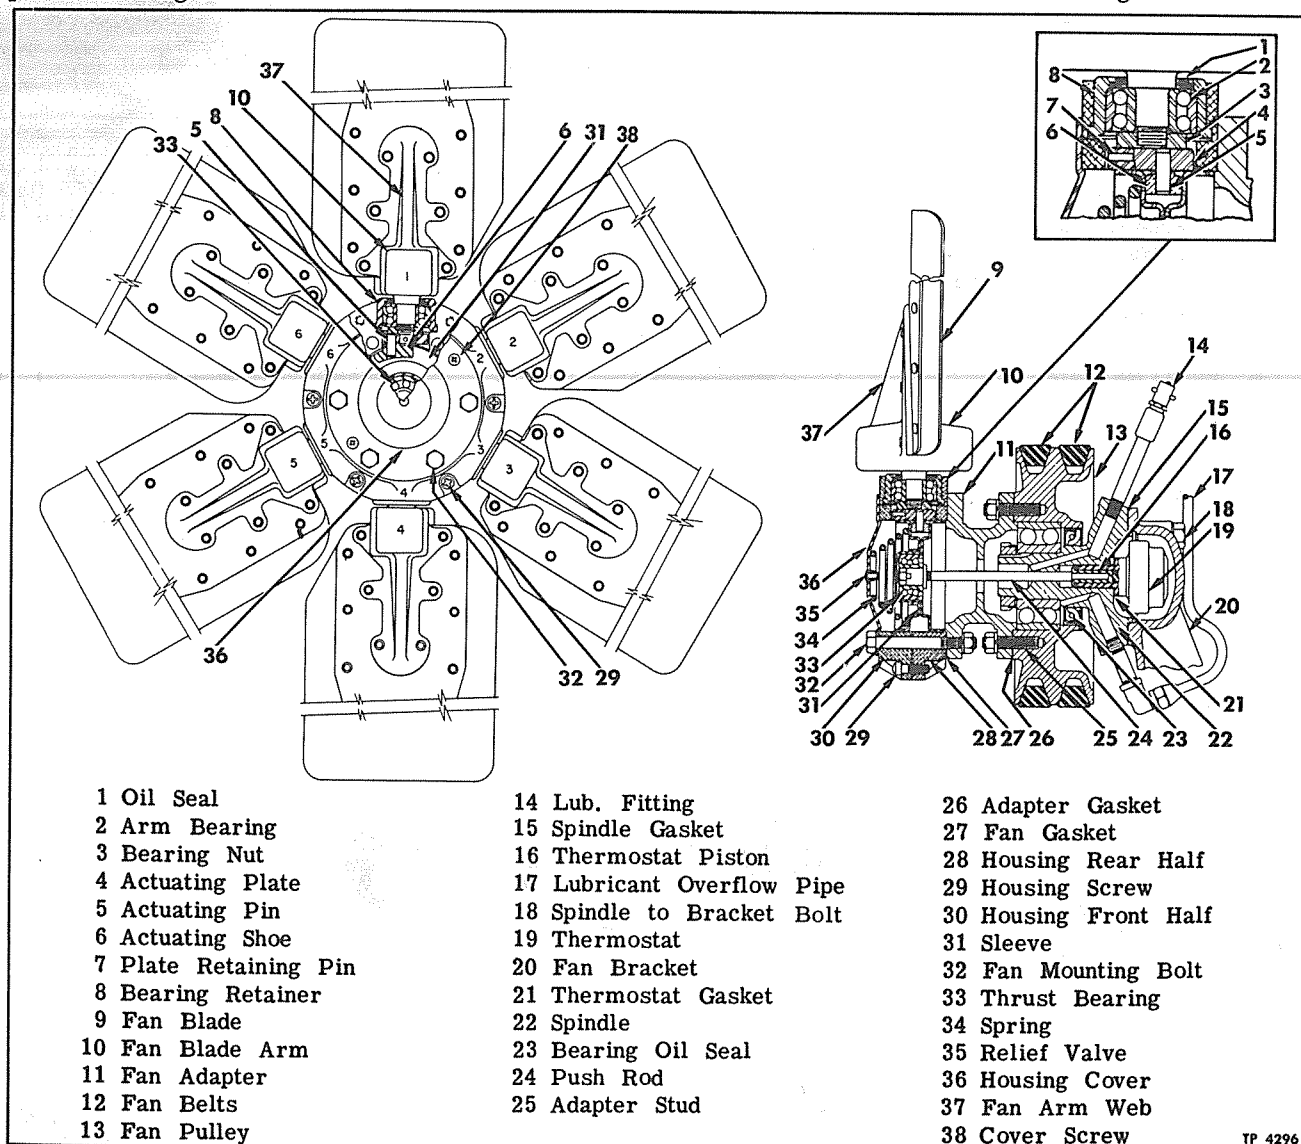
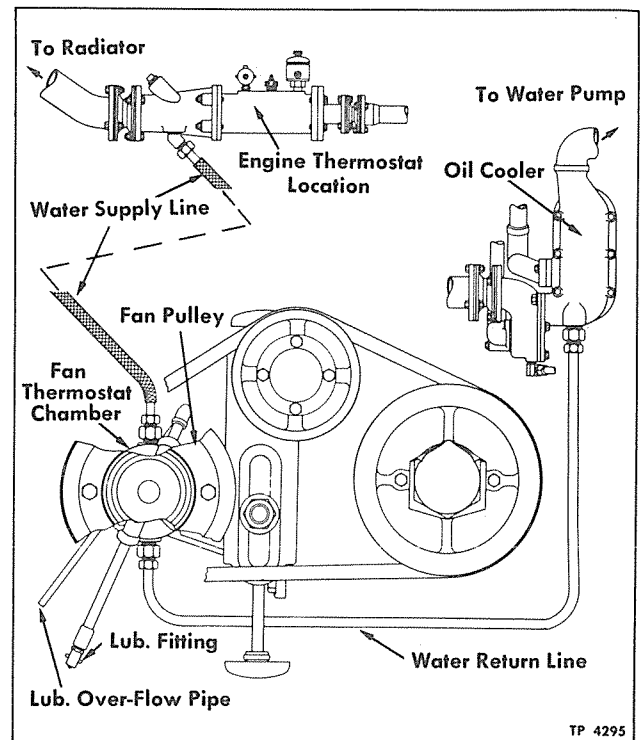

Figure 8—Sectional Views at Fan Hub and Pulley
Figure 9—Water Line Layout
Some vehicles are equipped with thermostatically controlled variable pitch fan assemblies. Radiator shutters are not used on vehicles so equipped. Key numbers in text refer to figure 8.
CONSTRUCTION (Figs. 8 & 9)
When engine is cold, the fan blades should have a slight reverse pitch. Consequently no cold air is drawn through radiator core when cold engine is first started. When engine reaches operating temperature and thermostat in water manifold at engine opens, the heated water from cooling system begins to flow through thermostat chamber at spindle as well as through radiator core. When fan thermostat is heated to a temperature of 168°F. the push rod is forced toward fan blade housing and exerts force against thrust bearing (33) in sleeve (31, fig. 8). This movement rotates fan blade arms which are interconnected with groove around sleeve (31). As engine water temperature rises, fan blade pitch will be increased proportionately until the fan operating thermostat temperature reaches 192°F.
THERMOSTAT REPLACEMENT (Fig. 8)
Fan pulley bearing and moving parts at fan hub are lubricated through fitting installed in fan bracket spindle (fig. 9). A lubricant overflow tube is also installed in spindle and relief valve is incorporated in front cover, to prevent pressure build-up within hub assembly. Refer to Lubrication (Sec. 13 of X-4711) for lubrication periods and lubricant specifications. Fan blades should be slowly oscillated manually while applying lubricant to assure complete filling of cavity inside hub. **CAUTION:** When lubricating fan assembly, if the lubricant overflow appears milky, moisture is indicated and measures should be taken to correct the condition. When the above condition occurs, it will usually be due to water leak at thermostat gasket (21, fig. 8). Removing thermostat and applying gasket cement on both sides of thermostat gasket will eliminate any water leakage. Refer to "Thermostat Replacement" earlier in this section for detailed instructions covering thermostat replacement.
(Fig. 8)
THRUST BEARING REPLACEMENT (Fig. 8)